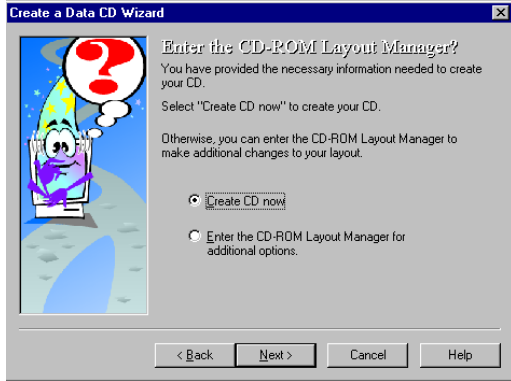

Figure 8
8. At the Writing Options window, verify that the maximum speed radio button is selected. Enter the number of desired copies by manually enter the number in the Number of Copies field or using the up/down arrows to increase/decrease the number. Click on the Next button to continue. See Figure 8 at the top of the next page.